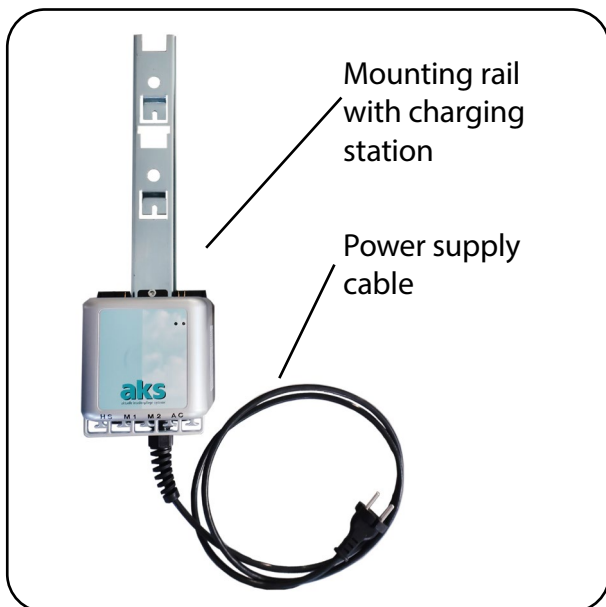

Fig. 6.3.01 – Scope of delivery for wall charging station accessories
2. Plug the connection plug of the power supply cable directly into a correctly installed and suitable mains socket (Fig. 6.3.01).